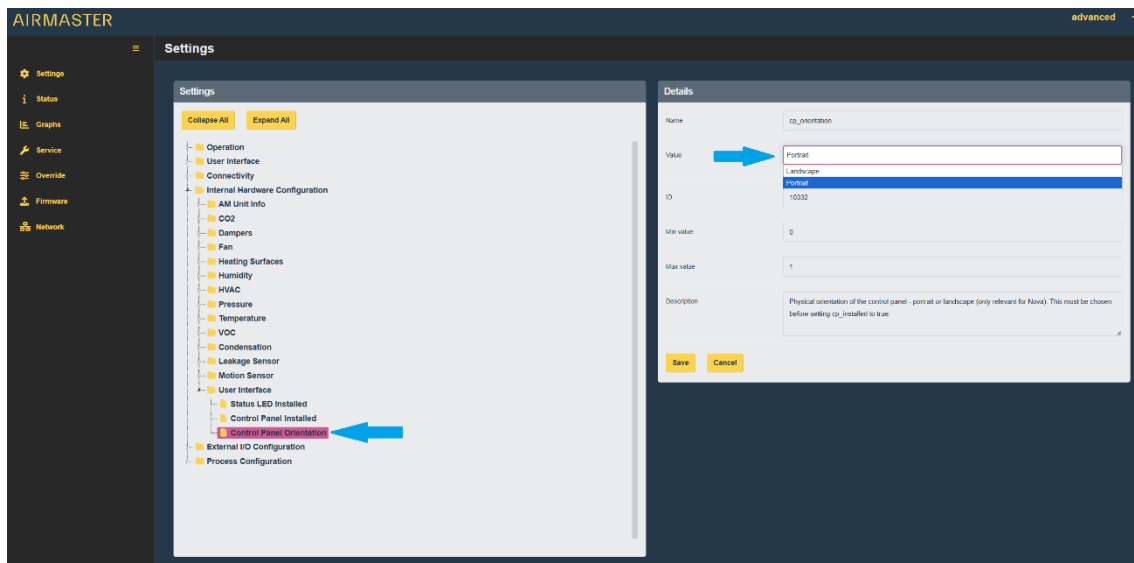

Figure 42: Control Panel Orientation sub-menu
2. Click on the “Control Panel Orientation” sub-menu, see Figure 42 below. Next, click on the field next to “Value” and choose “Landscape”.